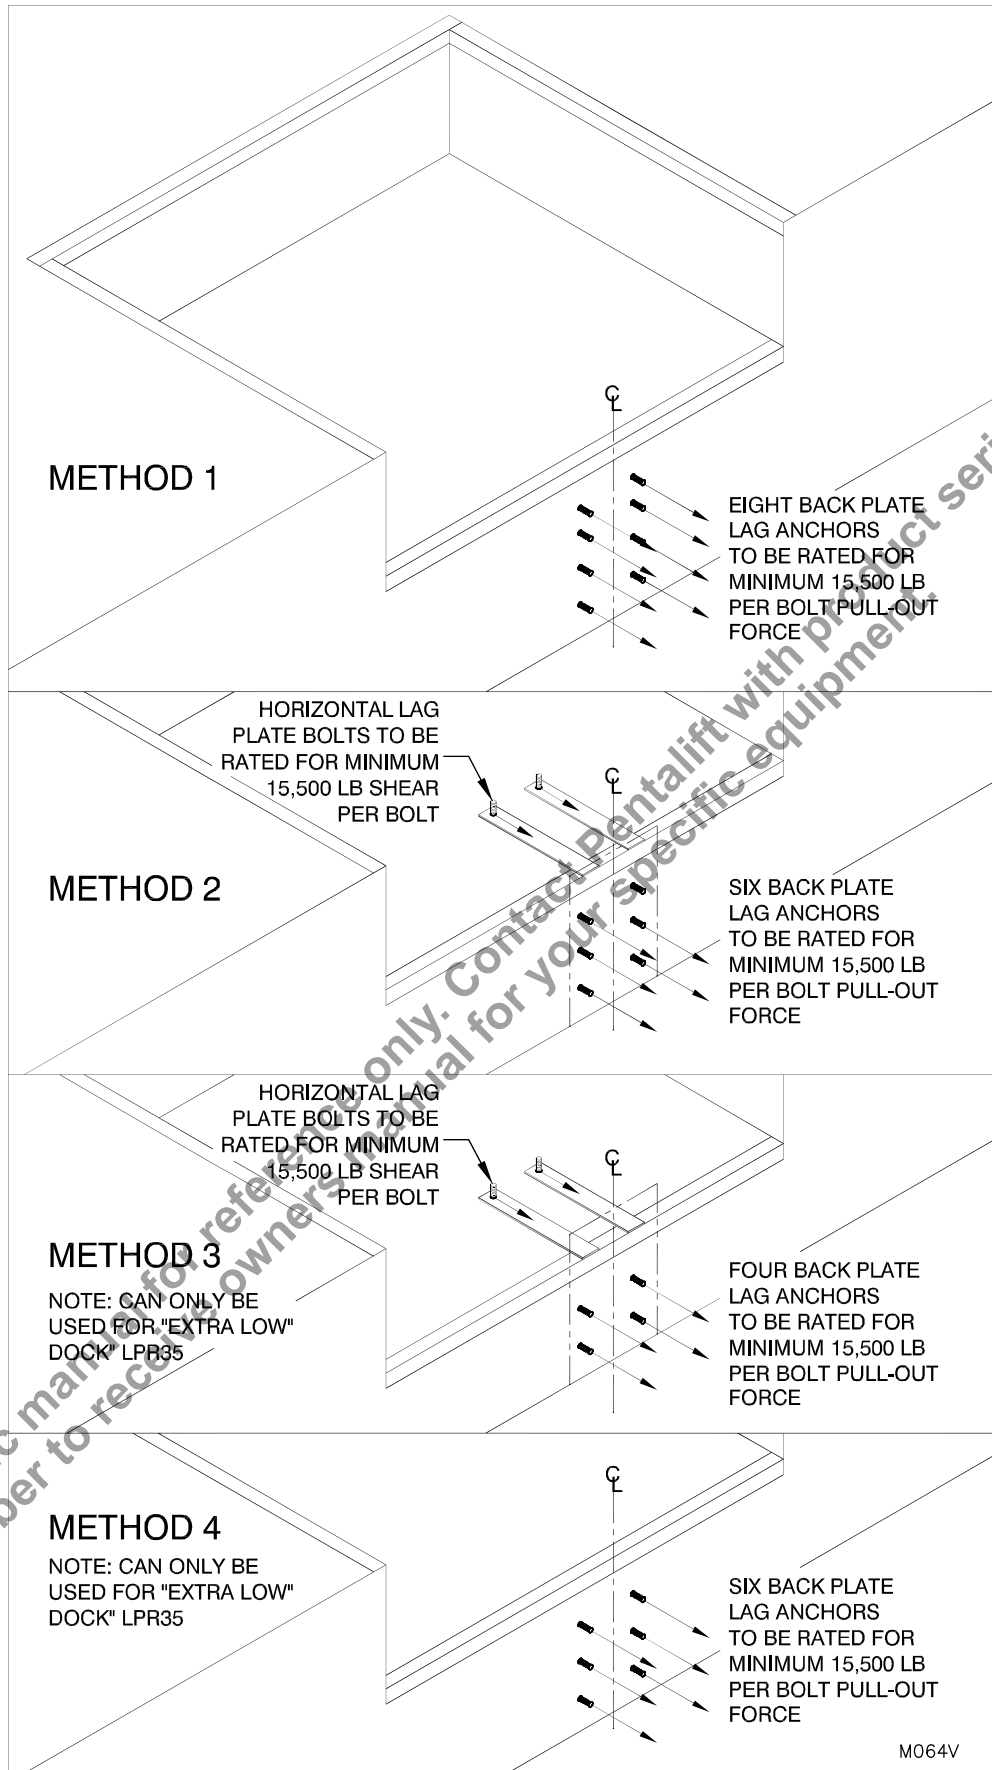

Figure 2: Draw Pull Forces and Installation Methods
3. ___ Ensure the concrete has sufficient strength to meet the draw pull forces which will be applied (See "Figure 2: Draw Pull Forces and Installation Methods" on page 9).
NOTE 1: See "Figure 2: Draw Pull Forces and Installation Methods" on page 9.
1. Follow LAG METHOD 2, beginning on page 9, using only four bolts to the dock face rather than six. See "Method 3" illustrated in "Figure 2: Draw Pull Forces and Installation Methods" on page 9.
1. Follow LAG METHOD 1, beginning on page 9, using only 6 bolts to the dock face rather than eight. See "Method 4" illustrated in "Figure 2: Draw Pull Forces and Installation Methods" on page 9.